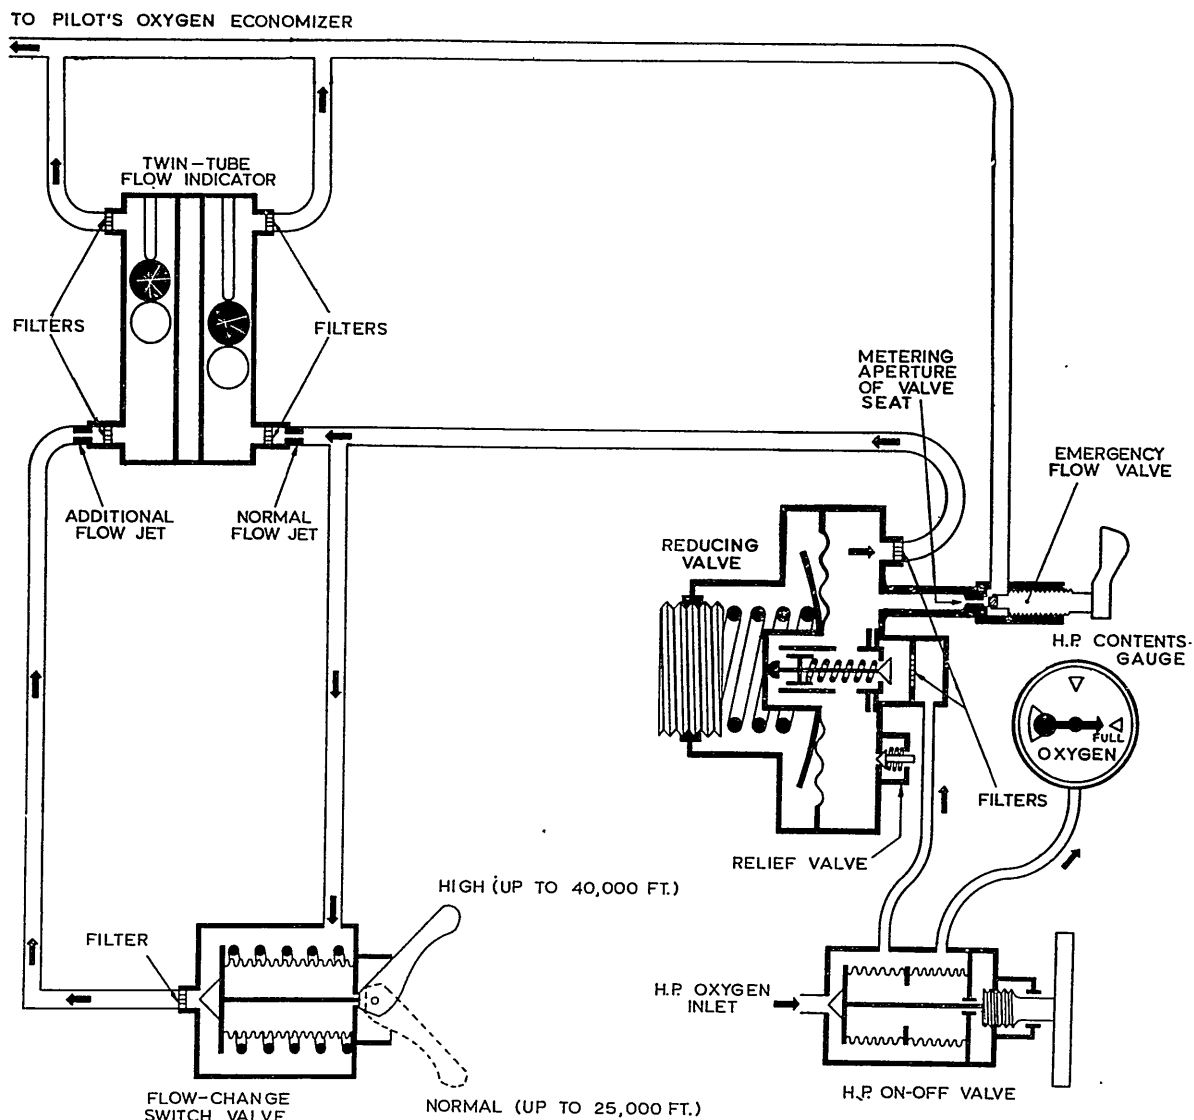

Fig. 4. Schematic diagram of regulator
14. The description which follows should be read in conjunction with fig. 4 which illustrates the operating principle diagrammatically.